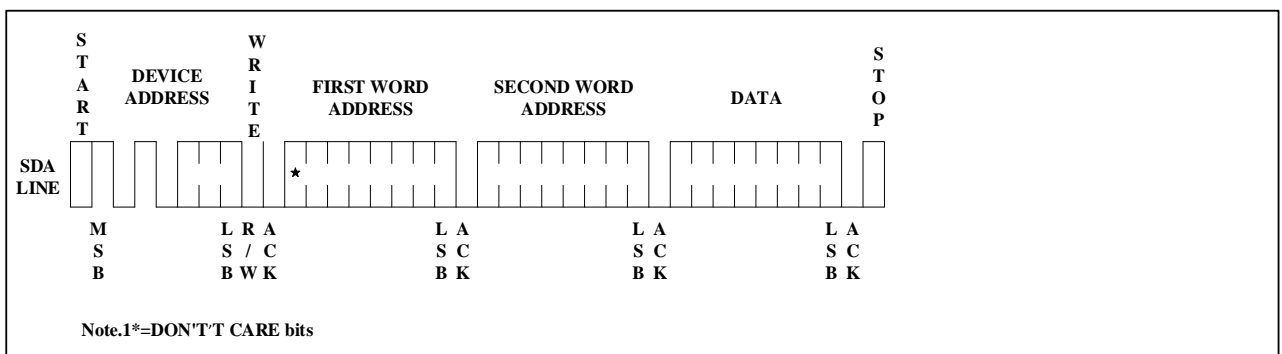

Figure 7. Byte Write
**BYTE WRITE:** A write operation requires two 8-bit data words address following the device address word and acknowledgment. Upon receipt of this address, the EEPROM will again respond with a "0" and then clock in the first 8-bit data word. Following receipt of the 8-bit data word, the EEPROM will output a "0" and the addressing device, such as a microcontroller, must terminate the write sequence with a stop condition. At this time the EEPROM enters an internally timed write cycle,  $t_{WR}$ , to the nonvolatile memory. All inputs are disabled during this write cycle and the EEPROM will not respond until the write is complete (see **Figure 7**).